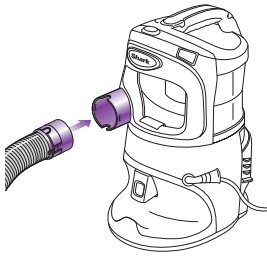

Fig. 1
- 1 Insert the end of the flexible hose into the connector on the back of the **Lift-Around™** Portable Vac. (**fig. 1**)